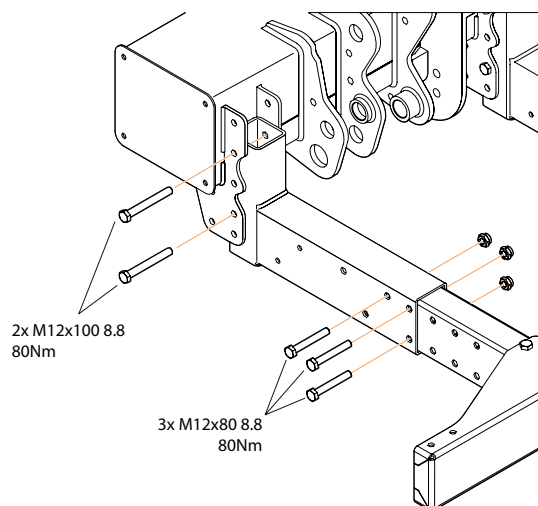

Figure 51. Installing underrun protection
1. Fit the inner part of each bracket at one of four heights. Select the height that meets the statutory requirements, see section "3.2 Statutory dimensions" on page 9. Use the corresponding bolts M12x100. Assemble without tightening the bolts, see Figure 51.
Use the associated bolts M12x80. Assemble without tightening the bolts. See Figure 51.